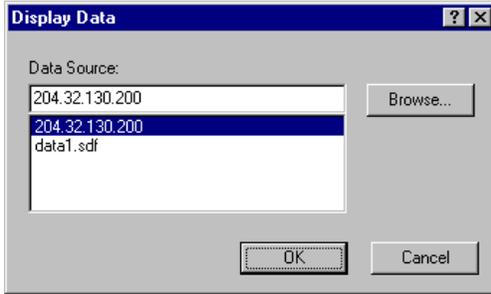

Figure 5-33. Display Data
1. Click Display Data. A display Data dialog box opens (Figure 5-33).